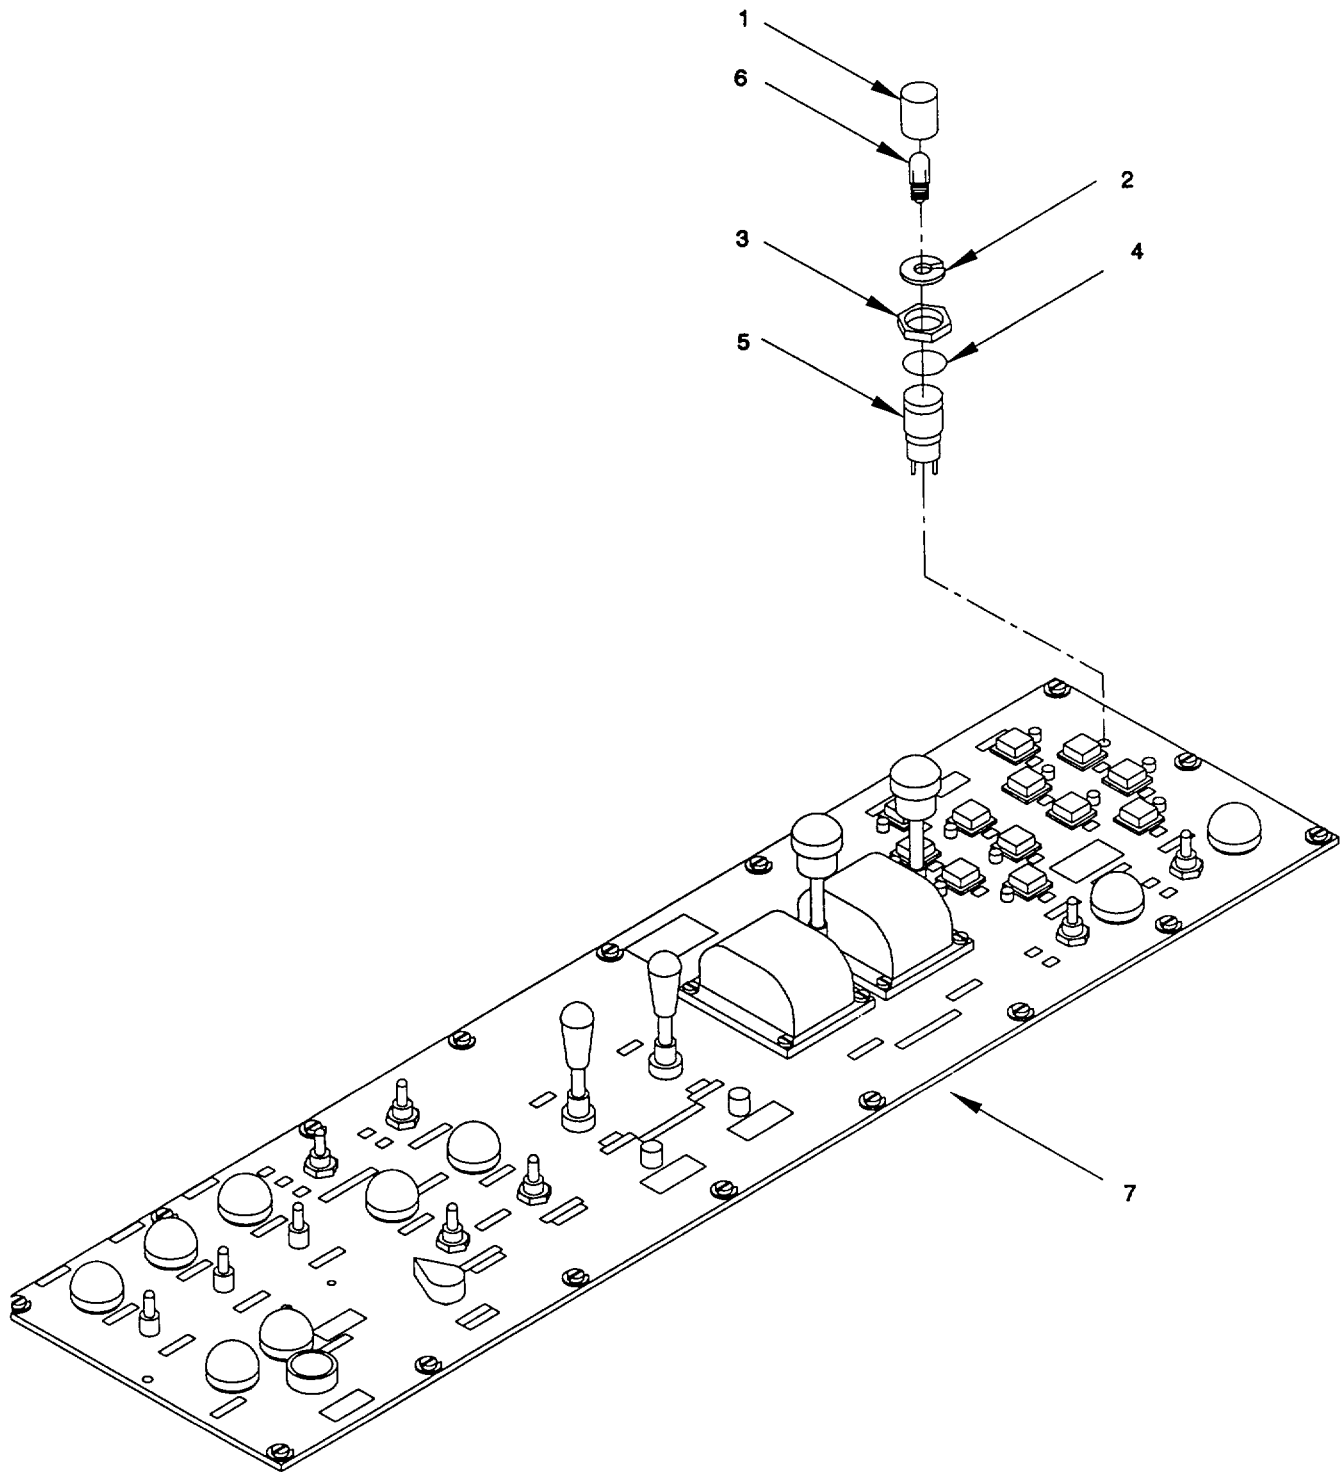

Figure 2-128. Indicator Lights, Bilge Pump System, Lower Control Panel "A2", Remove/Install.
a. *Remove.* (figure 2-128)
- (1) Tag and disconnect electrical wiring to bilge system indicator lights (DS15 through DS26). Refer to Appendix G.
- (2) For replacement of the indicator lights (Port Bilge lights DS15 through DS20, Starboard Bilge lights DS21 through DS26), remove lens cap (1), lockwasher (2), hex nut (3), and bushing (4). Remove light base (5) from back side of panel (7) (since it is flanged).
- (3) Unscrew lamp (6) from indicator light assembly.
b. *Install.* (figure 2-128)
- (1) Screw replacement lamp (6) into indicator light assembly.
- (2) Position light base (5) from back side of lower panel (7) through appropriate hole in panel and secure with bushing (4), hex nut (3) and lockwasher (2).
- (3) Screw in lens cap (1).
- (4) Reconnect electrical wiring, as tagged, to indicator lights. Refer to Appendix G. Use tie wraps and mounting bases to secure any loose wiring.